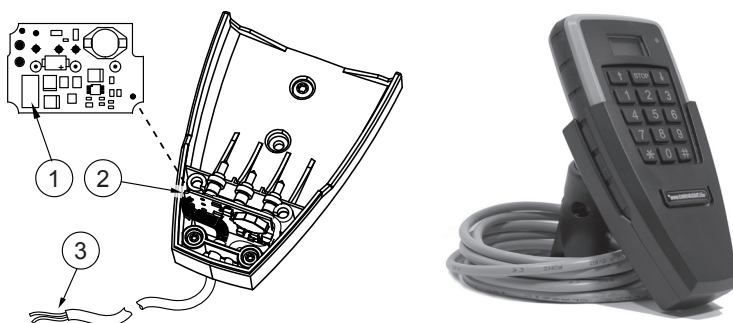

Figure 8.
2. Remove the back side of the transmitter (see fig. 8).
1. Remove the back side of the transmitter (see fig. 8).